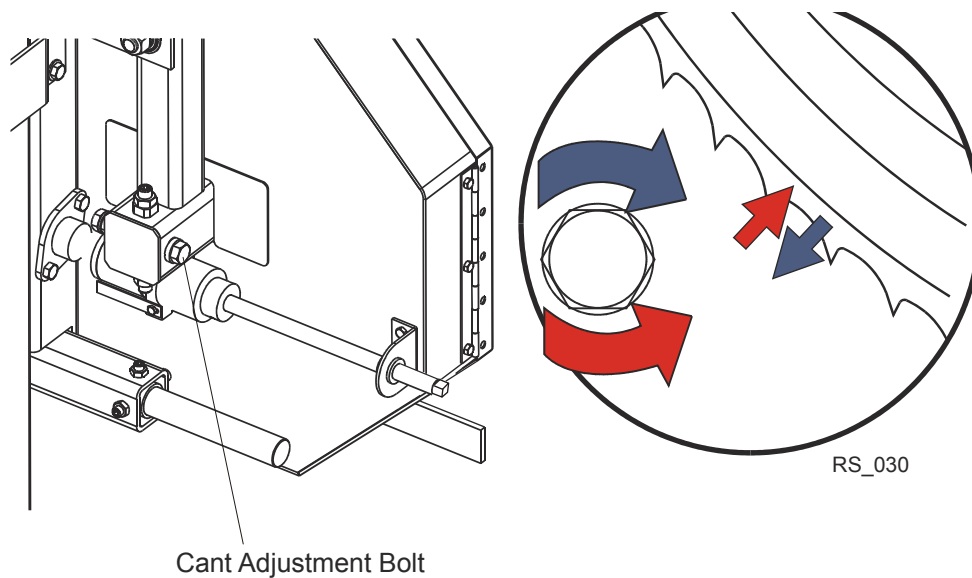

FIG. 4-7
To adjust where the blade travels on the idle-side blade wheel, use the cant control shown in **Figure 4-7**.
**See Figure 4-7.** Use the cant control adjustment to adjust the idle-side blade wheel. If the blade is too far forward on the wheel, turn the cant control counterclockwise. If it is too far back on the wheel, turn the cant control clockwise.